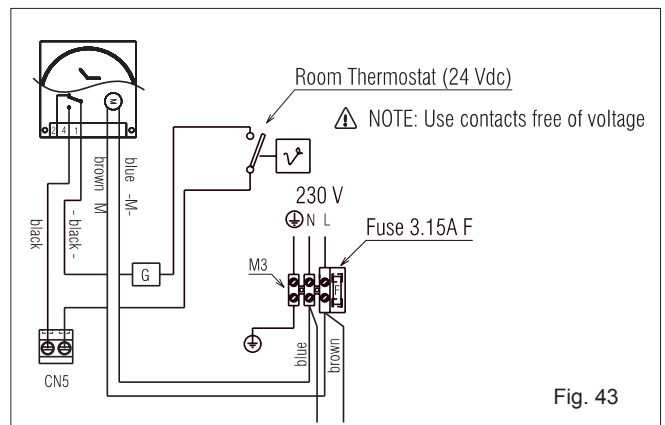

Fig. 43
- programmable room thermostats (fig. 43)